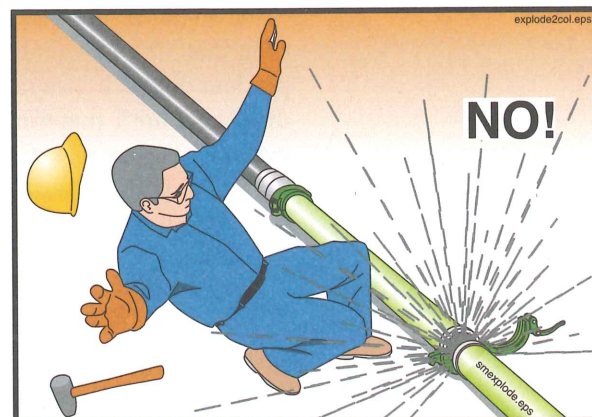

Figure 52
- 15.6 **⚠ WARNING** Never open a pressurized pipeline (Figure 52). The pump operator must release the pressure before you open the line: If the line is pressurized with compressed air, let the operator release the pressure and verify that the air has escaped before you proceed.